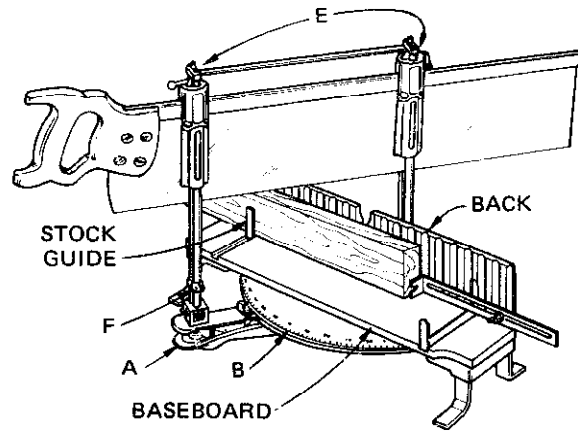

Fig. 6-24 Using the miter box to make a square cut.
3. Place the saw in the guides of the box. Lower the guides by releasing the automatic catches (E, figure 6-24). Pull the saw carefully back and forth in the guides until it touches the top of the baseboard. Adjust the fixed stops, F, on the uprights, so that the saw cuts into the baseboard about 1/16 of an inch.